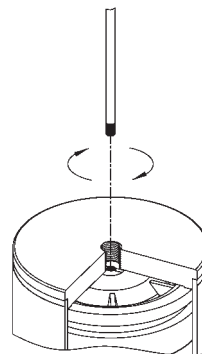

Fig 1-1
1. Install the O-ring(9) into the groove of the adapter seat(8), and lock the adapter seat(8) to the cylinder with the set screw(7).
2. Install the O-ring (5) and the O-ring (6) on the control box base (3).
3. The drive shaft (14) of the control box is locked to the cylinder as shown in Figure 1-1, and then the base of the control box (3) is pressed down to fit the cylinder. Make sure that the base of the control box is firmly attached to the cylinder, and use the fixing screws (4). lock.
4. The cover screw(2) locks the control box cover(1) to the control box base.